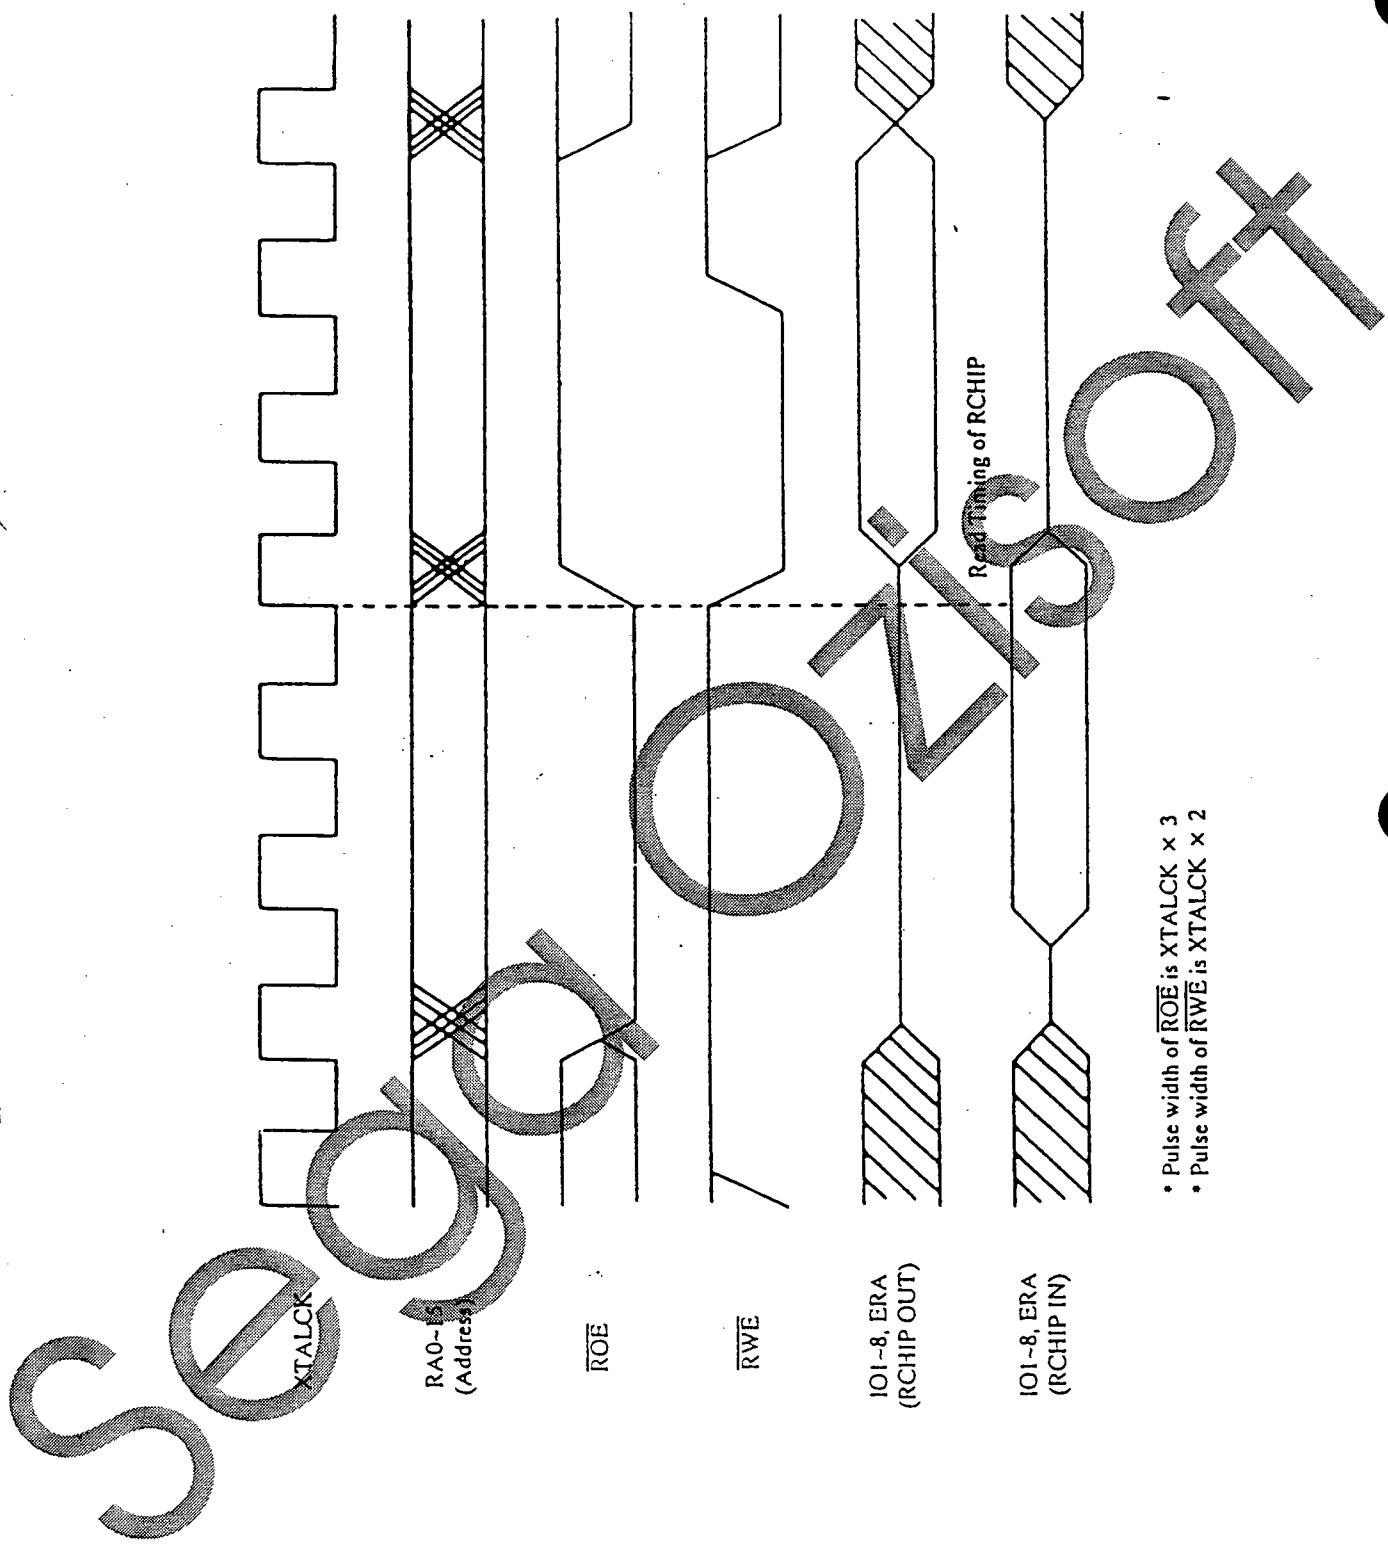

Figure 37. LC8950 RA0 to RA15,  $\overline{RWE}$  and  $\overline{ROE}$  Timing
*Figure 37 RA0 to RA15, RWE and ROE Timing* shows the timing relationships between the RAM read address outputs, RA0 to RA15, and the write and output enable signals, RWE and ROE.